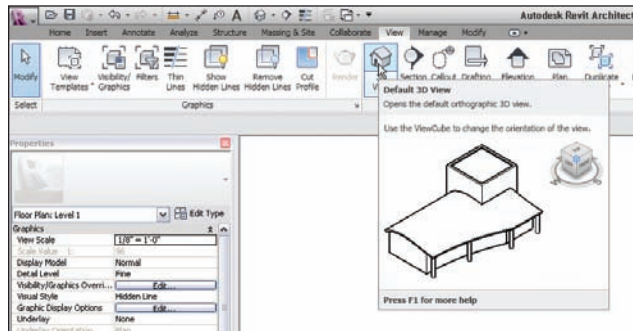

FIGURE 1.41 The 3D View icon will be heavily used.
1. Click the 3D View icon, as illustrated in Figure 1.41.